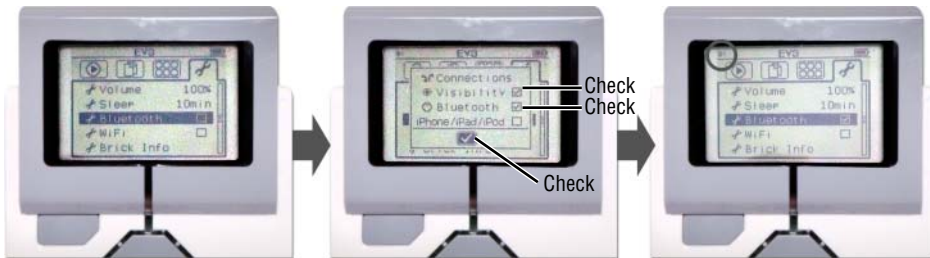

Figure A-1: Activate Bluetooth on the EV3 brick.
2. If the Visibility option is not checked, navigate to that option by using the Up and Down buttons and select it by clicking the center button. Then, go to the Bluetooth option and select it as well. To come back to the main menu, use the Down button and select the check mark button at the bottom of the dialog box. Once Bluetooth is turned on, you will find a left-arrow symbol (<) with a Bluetooth symbol in the upper-left corner of the screen (see Figure A-1).
1. First you need to enable both Bluetooth and the iPhone/iPad/iPod from the dialog box that appears when you choose the Bluetooth option on the Settings screen. See Figure A-1 to find how to get to the dialog box.